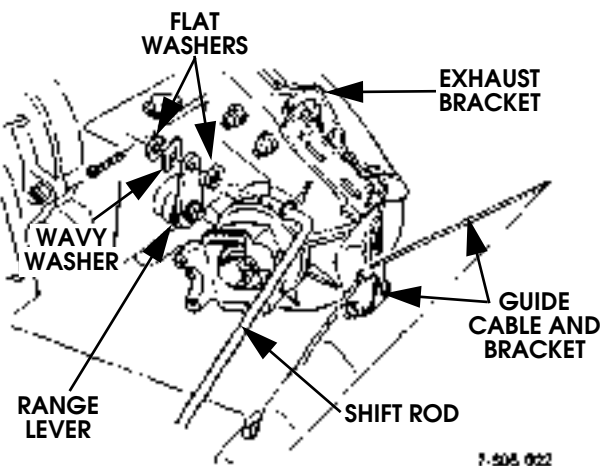

Figure 5-80: Shift Rod Attachment
7. Disconnect shift rod at range lever (Figure 5-80).
8. Remove guide cable and bracket (Figure 5-80).
5. Connect shift rod to range lever with washer and cotter pin (Figure 5-80).